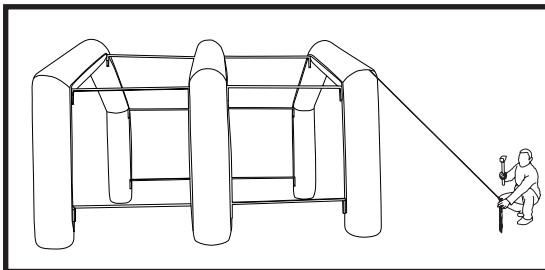

Fig. 8
12. Clip the second end of the rope to the torsion anchor, stretch the rope, hammer the anchor into the ground. Repeat for each rope (Fig. 8).